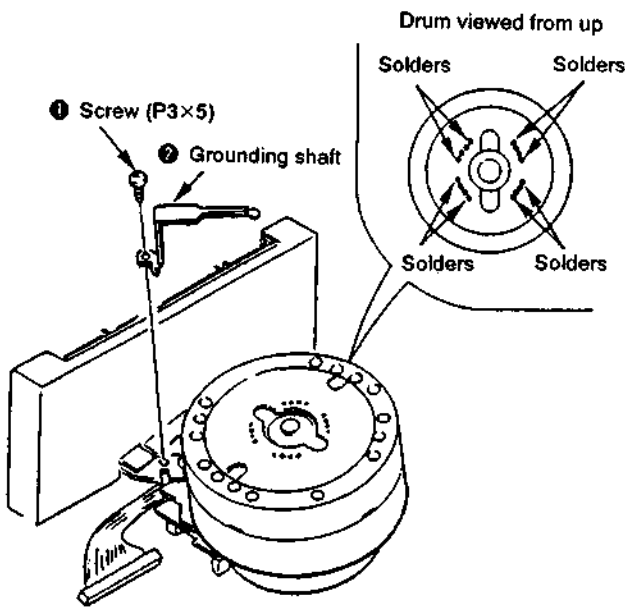

Fig. 4.
- 1) Remove the screw ① (P3×5) and take out the grounding shaft ②. (See Fig. 4.)